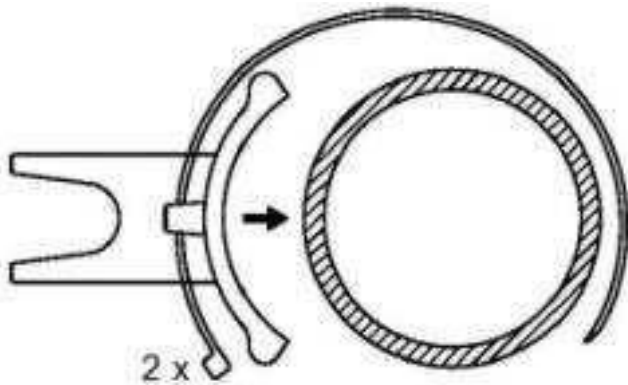
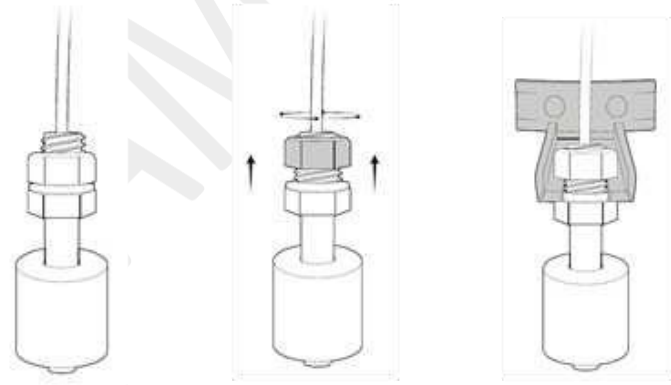

Figure 1: Float switch bracket installation with zip ties.
Figure 2: Float Switch lock nut tightened onto bracket.
2. The float sensor is installed on the sump pump discharge pipe. Using the provided plastic float bracket and two zip ties, securely mount the float to the discharge pipe (Fig. 1).
3. The sliding float portion of the sensor should face down. Mount the float bracket approximately six (6) inches above the sump pump normal water line.
5. Loosen the float switch lock nut, and place float switch on mounting portion of the bracket. Tighten the lock nut onto the bracket by hand (Fig. 2).